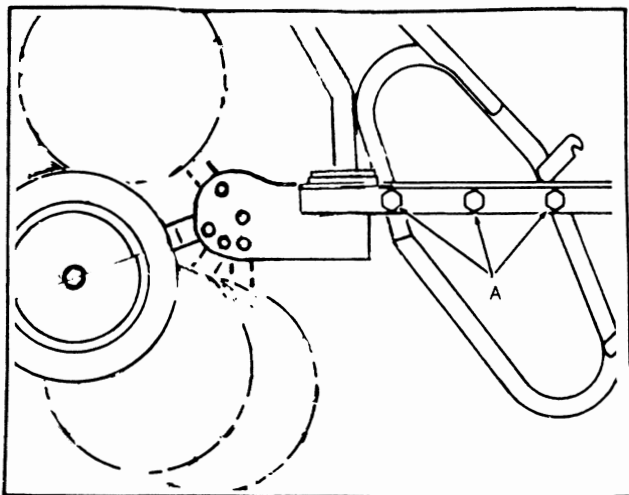

Figure 10
1. Regularly check all bolts and nuts for tightness. Bolts marked "A" must be torqued to 21 ft. lbs. See Figure 10.